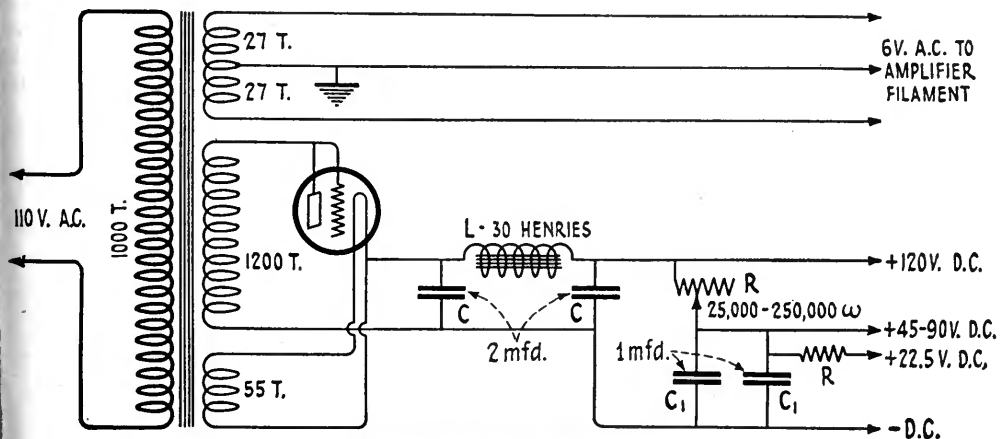
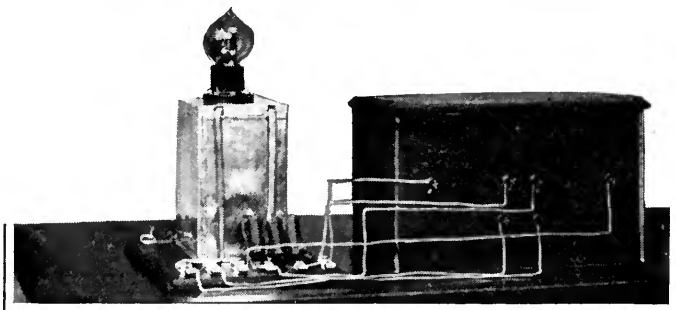

FIG. 6
FIG. 7
A fourth source of disturbance is often found in the stray flux or leakage of alternating current magnetism from the cores and wires of the current supply set. An amplifier that has some inherent unbalance or tendency to "howl" will invariably exhibit a loud hum when supplied with alternating current, although it may appear perfectly stable when supplied with direct current. The remedy in such a case is to place the entire current supply set in a tin or iron shield, and to connect the shield to earth. Fig. 7 shows a view of a current supply set connected to a two-stage amplifier, where it was necessary to shield the entire supply set. Here all leads were shielded with lead covered sheath, and the entire shielding system was grounded. Any iron box may be used to contain the set, such as an old panel switch box, biscuit tin or other tin container. Holes may be cut in the box to accommodate the socket and leads, and these should be very well insulated to prevent arcing of the high voltage.
**T**HE writer has indicated a secondary winding No. 2 to give 120 volts direct current, but this value may be altered to suit the builder's particular needs. The set illustrated in the photograph actually delivers 200 volts, which are applied to the plate of a power amplifier tube. Western Electric lavite resistances are inserted in series with the positive plate lead to give lower voltage values. The set illustrated in Fig. 7 delivered 120 volts, 90 volts, 45 volts or 22.5 volts, as might be required.
Multiple voltage may be obtained by the use of the proper resistance inserted in the plate lead. The method indicated on page 371 of the September RADIO BROADCAST by C. J. LeBel will be found to be satisfactory and still another method is shown in Fig. 6, and illustrated in Fig. 7. In this method, high resistances are placed in series with the positive B battery voltage, causing a drop of the desired amount. Fig. 7 show three Western Electric No. 38-B lavite resistances connected in series, with taps taken off at the desired points. The writer has also
used the Bradleyohm with good results. The variable control of the Bradleyohm will be found useful in varying the detector plate voltage on soft tubes. Any number of resistances can be connected in series, taking taps off wherever desired, so that the proper voltages can be obtained. If any difficulty is experienced in eliminating hum when multiple voltages are employed, it may be eliminated by the use of proper by-pass condensers of 1 mfd. or 2 mfd. capacity shunted around the various taps. This is illustrated in Fig. 6, at C', where a 1 mfd. condenser is shown connected across the 45 volt tap.